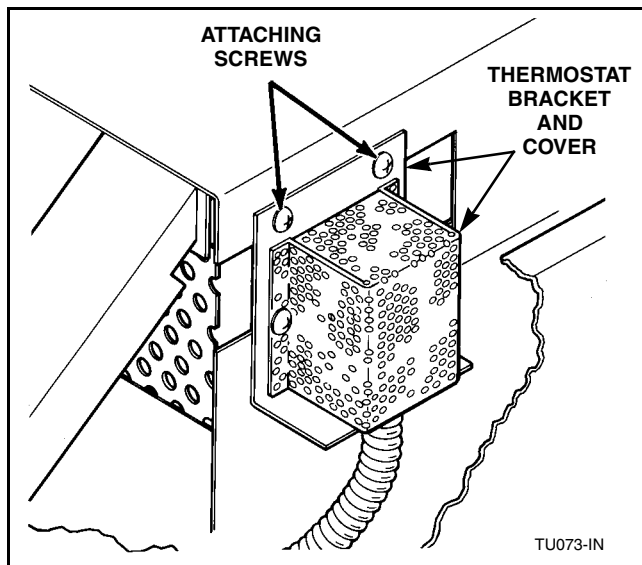

Figure 20
- With a short (stubby) screwdriver, remove screws holding thermostat bracket and cover to cabinet. Refer to *Figure 20*.